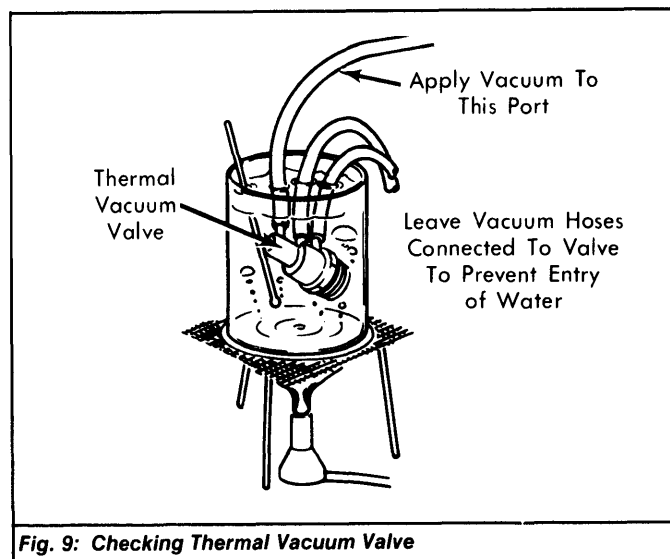

Fig. 9: Checking Thermal Vacuum Valve
2) Heat water to 65-120°F (18-49°C). DO NOT allow water to enter thermal vacuum valve. Again apply vacuum to top port of valve. See Fig. 9. Valve passage should now be open.